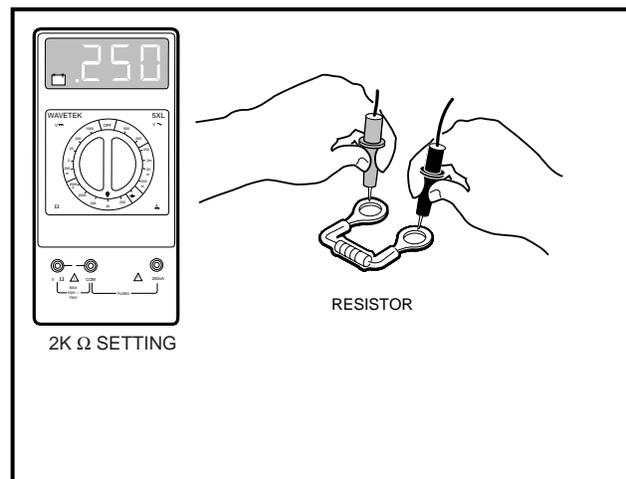

Figure 11-22 Test Resistor
2. Using a multimeter, check for resistance between both resistor terminals. If reading is not approximately 250 ohms, replace the resistor (**Figure 11-22, Page 11-16**).